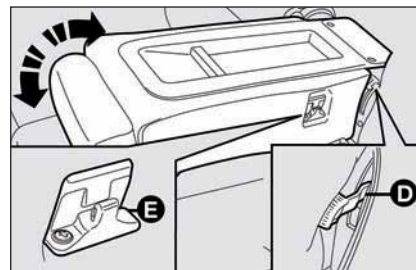

fig. 44
- operate the lever **D**-fig. 44 (one per side)
To arrange the central unit back in vertical position, operate lever **D**-fig. 44 again (one on each side) and realign the unit with the side backrests and make the safety clip **E**.
Pull the ribbon **F**-fig. 44 and push forward the upper part of the backrest until the retainer clicks. Accompany the backrest to the horizontal position and release the ribbon **F**. Reverse the operation to reposition the backrest in vertical position and make sure that the retainer clicks.